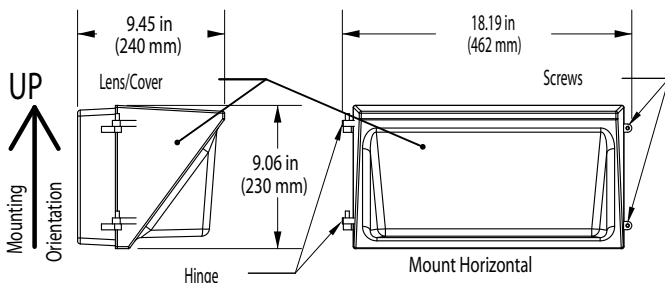

Figure 1(WL250MH-PS)
2. Loosen (2) screws, open, and remove fixture lens cover. Set lens cover aside to prevent damage while installing. (See Figure 1 and 2)